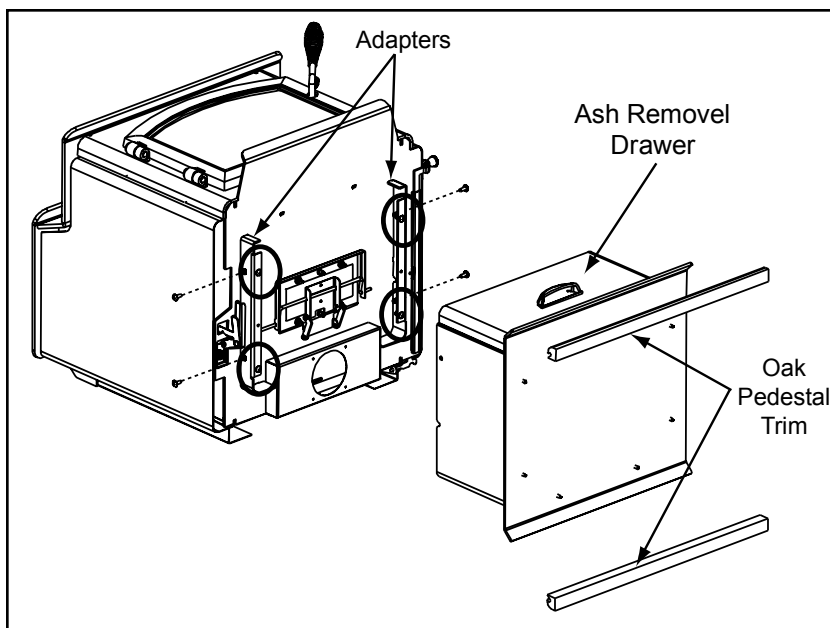

Figure 22.1
1. Remove screws on adapter and slide pedestal over adapter on bottom of stove. **Figure 22.1.**